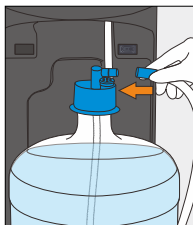

Figure 43
20. Remove protective cap from the SmartFlo™ water line and install onto the replacement bottle adaptor assembly (Figure 43)